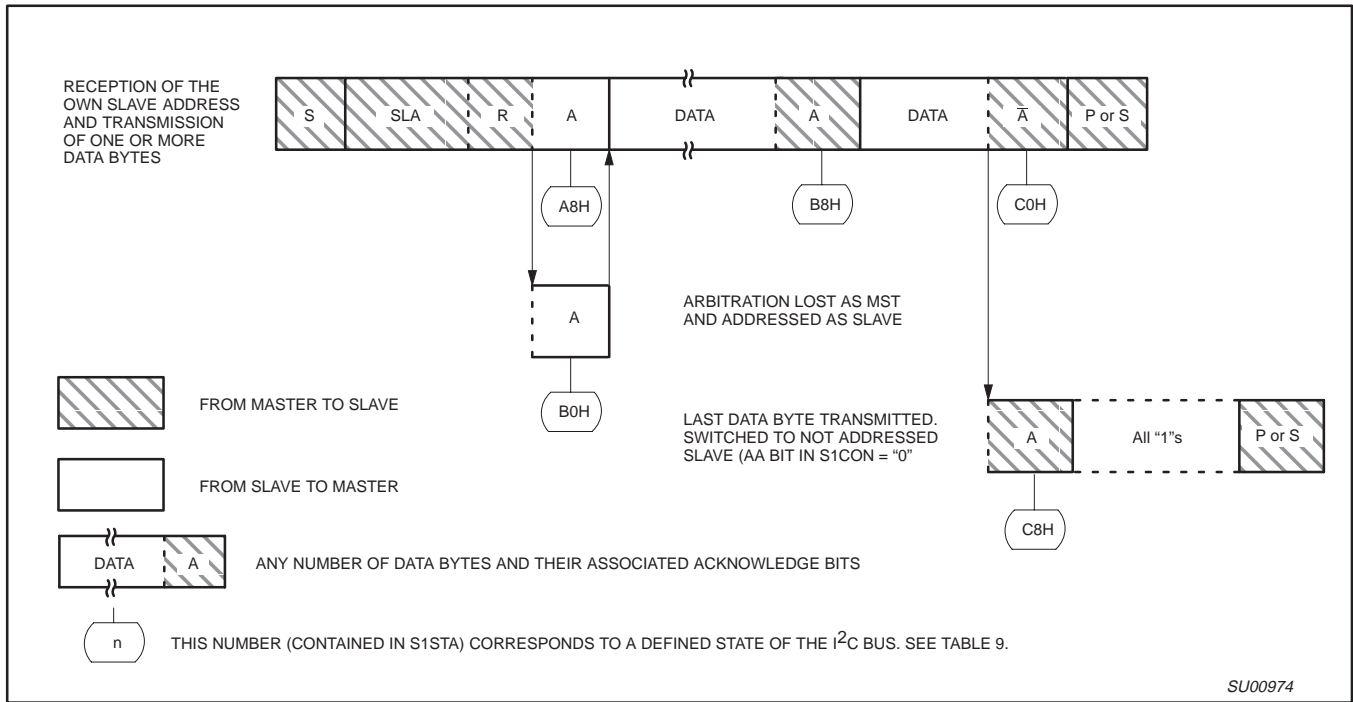

Figure 42. Format and States of the Slave Transmitter Mode
When SIO1 is in the addressed slave transmitter mode, state C8H will be entered after the last serial is transmitted (see Figure 42). When SI is cleared, SIO1 leaves state C8H, enters the not addressed slave receiver mode, and the SDA line remains at a high level. In state C8H, the AA flag can be set again for future address recognition.
**Slave Transmitter Mode:** In the slave transmitter mode, a number of data bytes are transmitted to a master receiver (see Figure 42). Data transfer is initialized as in the slave receiver mode. When S1ADR and S1CON have been initialized, SIO1 waits until it is addressed by its own slave address followed by the data direction bit which must be “1” (R) for SIO1 to operate in the slave transmitter mode. After its own slave address and the R bit have been received, the serial interrupt flag (SI) is set and a valid status code can be read from S1STA. This status code is used to vector to an interrupt service routine, and the appropriate action to be taken for each of these status codes is detailed in Table 9. The slave transmitter mode may also be entered if arbitration is lost while SIO1 is in the master mode (see state B0H).